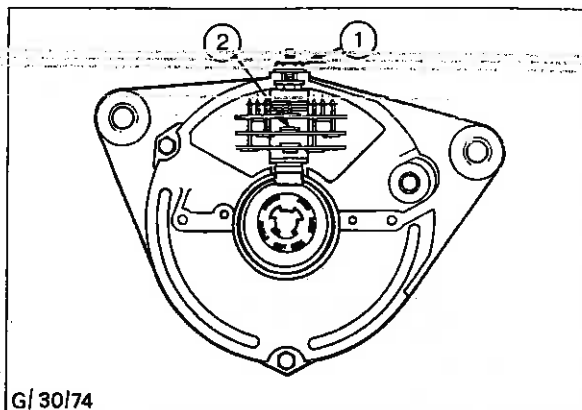

Fig. 12 - Removing the Rectifier Pack
6. Clamp the alternator securely. Using a heat shunt as shown in Fig. 46, unsolder the stator leads from the rectifier. Slacken the securing nut (1) and remove the rectifier pack (2) - see Fig. 12.